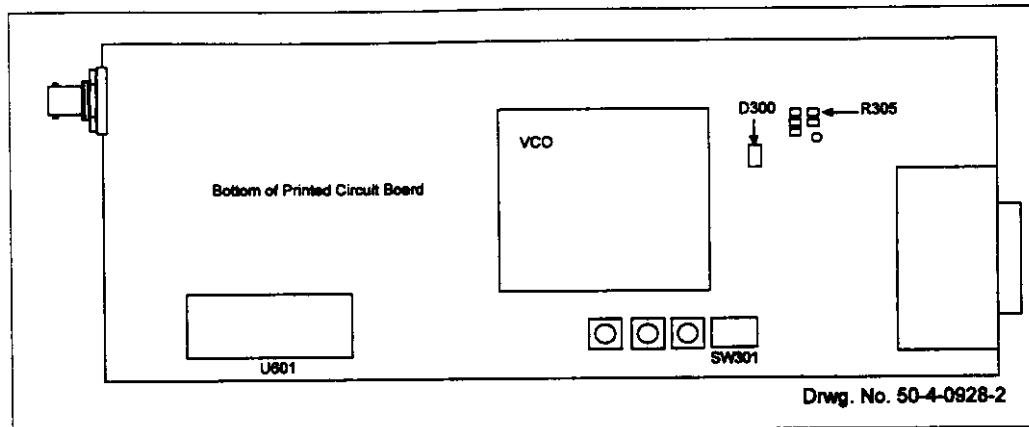

Figure 9.2: Position of Tx module synthesiser increment setting resistor R305
Figure 9.2 shows the location of R305 on the module PCB.
Note: The selected transmit frequencies are restricted to those with 5 kHz or 6.25 kHz synthesiser increments. If R305 is fitted to the module PCB, the synthesiser step size will be 5 kHz, otherwise the synthesiser step size is 6.25 kHz (default). Figure 9.2 shows the location of R305 on the module PCB.
2. Check the setting of DIP switch SW301 for the required frequency band and channel spacing, check if R305 is fitted (refer to Figure 9.2) and set the frequency switches SW302, SW303 and SW304 to the middle of the band. Refer to Section 9.4 for details.